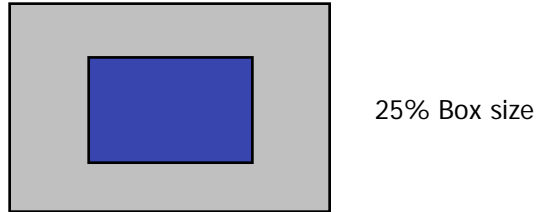

FIG. 9 Color Shift Test Pattern
5. Color shift is the angle at which the average color difference for all Macbeth is lower than 0.02. For more information see FIG 9. (By EZ Contrast)